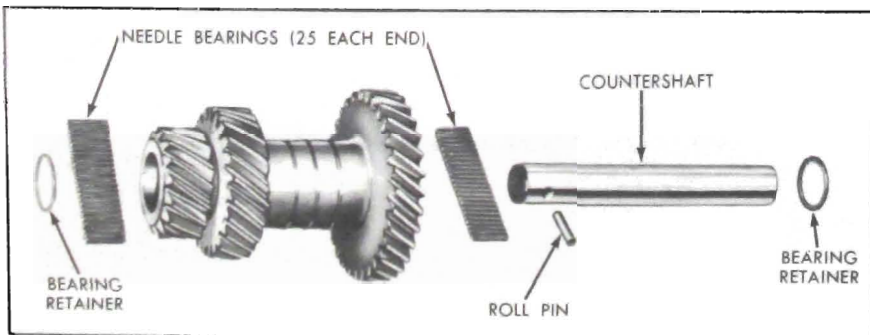

Figure 4-22—Exploded View of Countergear
2. Assemble the countergear, dummy shaft, bearings, thrust washers, and place in bottom of case. The countergear will remain in the bottom of the case until the main and input shafts have been installed. See Figure 4-22.